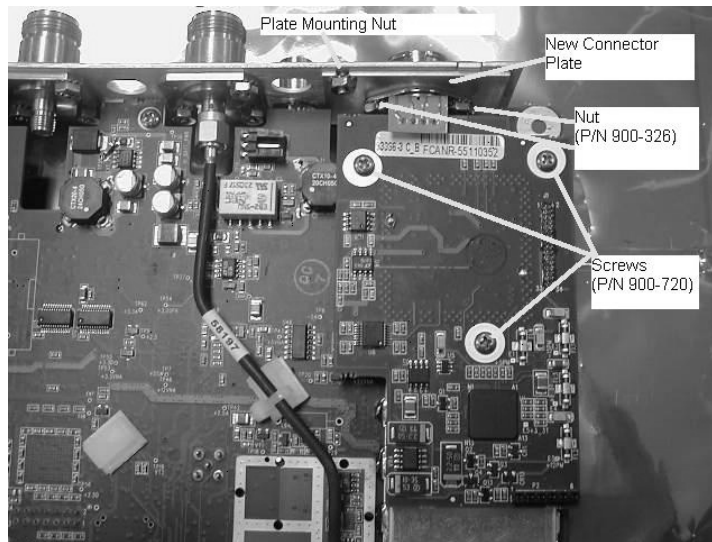

Figure 17. Power Monitor PCB Assembly Replacement
8. Install the Option 5 PCB assembly (p/n 63066-3) to the main board. Carefully align J1 to J6 of the main board when installing. Refer to Figure 17.